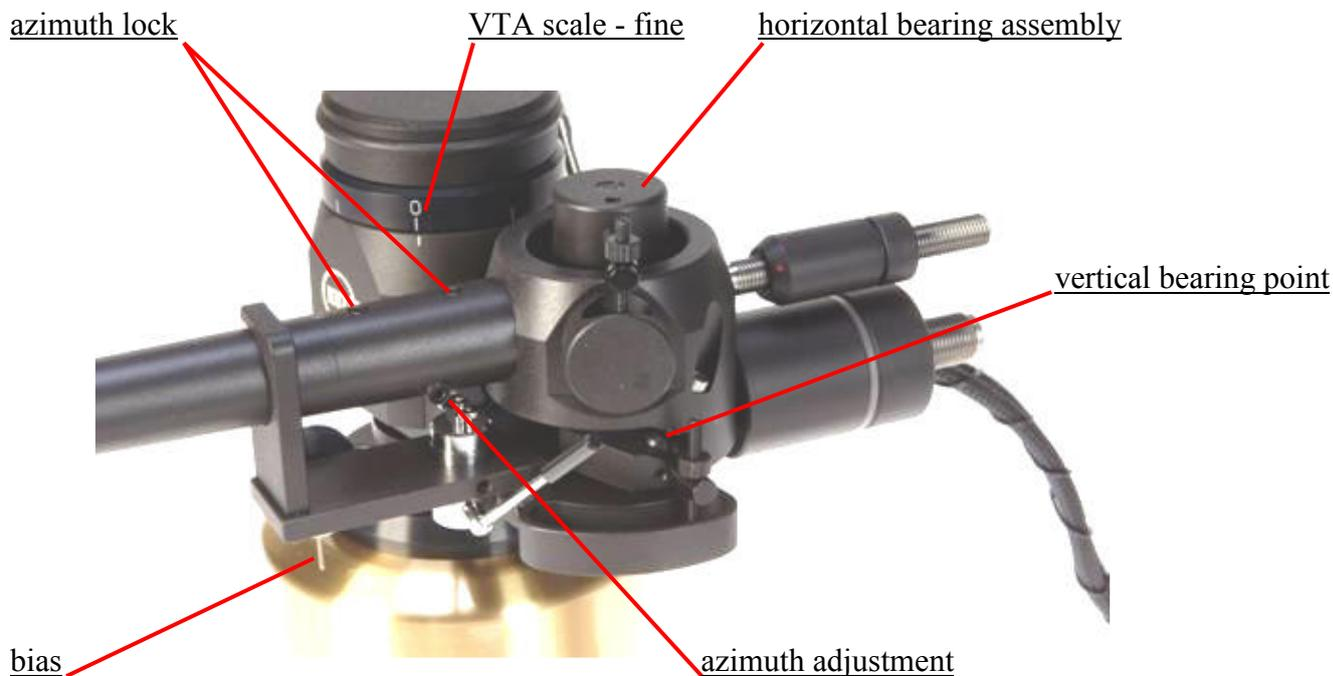

Fig. 2
(Fig. 2, 3A,3B,&4)
Fix cartridge pins. Add counterweights to the lower threaded carrier, starting with the longest counterweight, then a plastic ring and another counterweight, until the tonearm is roughly balanced. Be sure to fit the plastic rings that separate counterweights and, at the same time, allow them to fit together. (See Fig.2 and counterweight configuration)
If this is too loose, hold the front part of the counterweight and rotate the rear part until there is a tighter fit, or lock it into position on the threaded carrier. Opposite rotation will make the smaller counterweight looser. (Fig. 2)
To make azimuth adjustments, release the two screws locking the mechanism at the centre top of the main tonearm tube, with Allen key 2mm. Under the main tube is a tiny rod with a hexagonal screw. Insert the Allen key 2 mm into the screw (it may feel loose), rotate it slightly and it will alter the azimuth. (Fig.2)